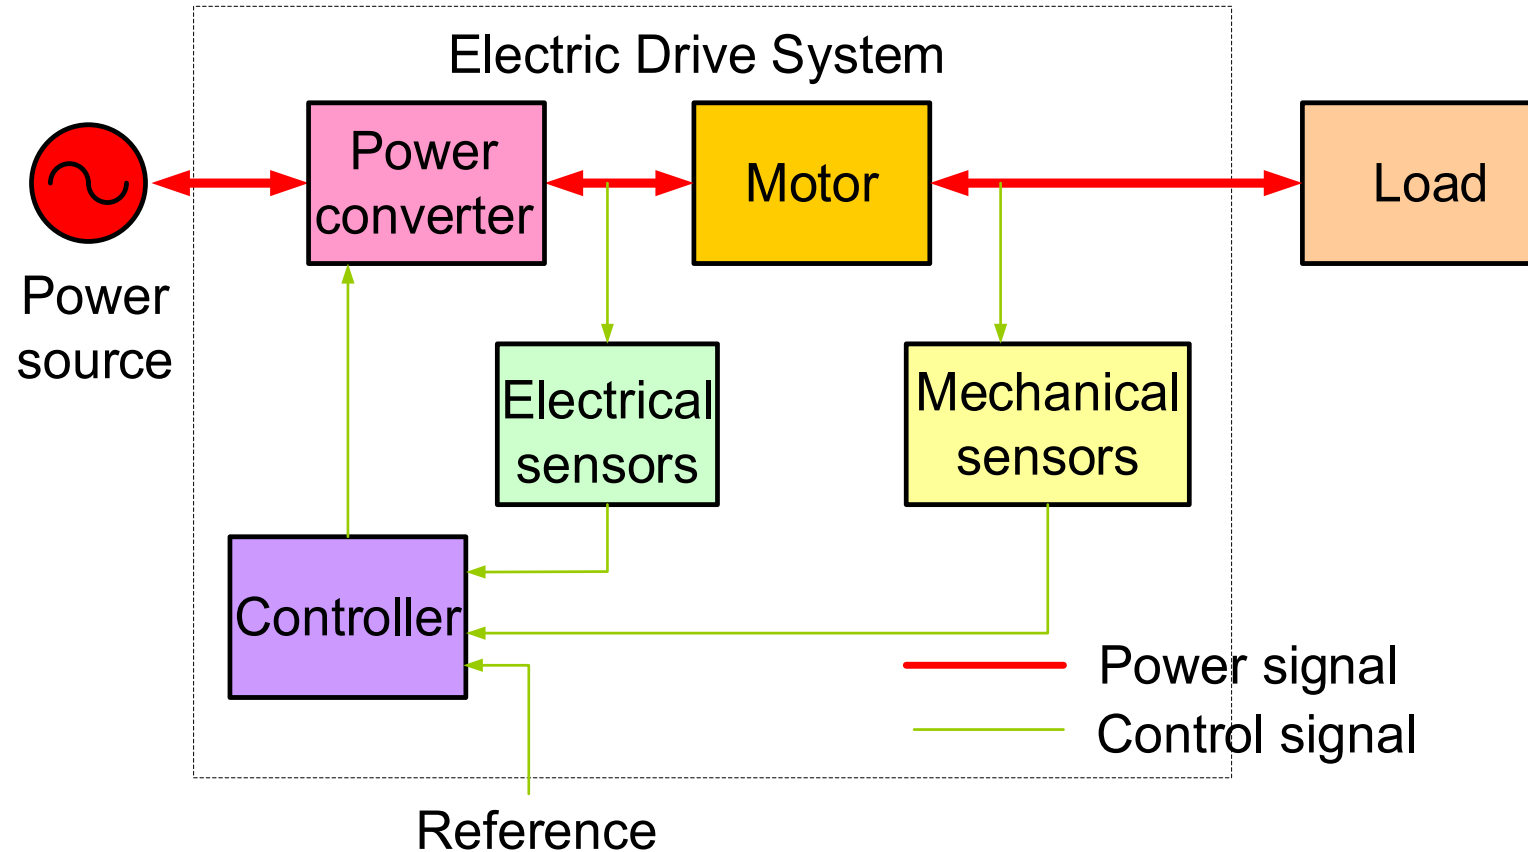

Figure 1.2: Electric drive system
- It is a “**system**” involving many different components as shown in Fig. 1.2 and the main role of electric drive system is – *efficient conversion* of electric energy to mechanical energy or vice-versa.